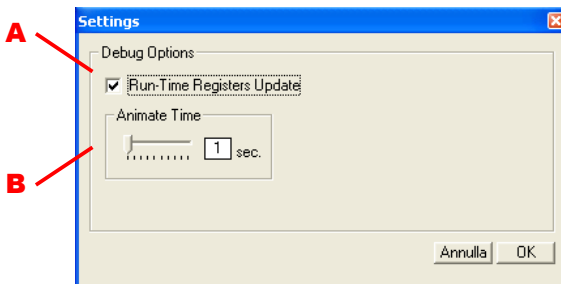
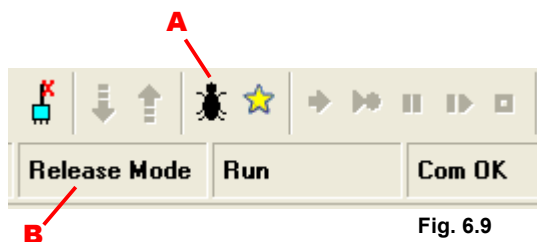

Fig. 6.8
Fig. 6.9
The Function Block in execution is identified by the Index parameter coloured in red and is updated the PC ("Program Counter") value (Fig.6.8-A). Open the "Settings" window (Fig.6.9), selecting "Settings -> Workspace" to set the following options for the Debug modality:
- "Run-Time Register Update" (Fig.6.9-A) – If active, in "Run" condition the table Register will be automatically updated (1 read per second)
- "Animate Time" (Fig.6.9-B) – Setting of the playing time between one step and the successive in the "Animate" condition.